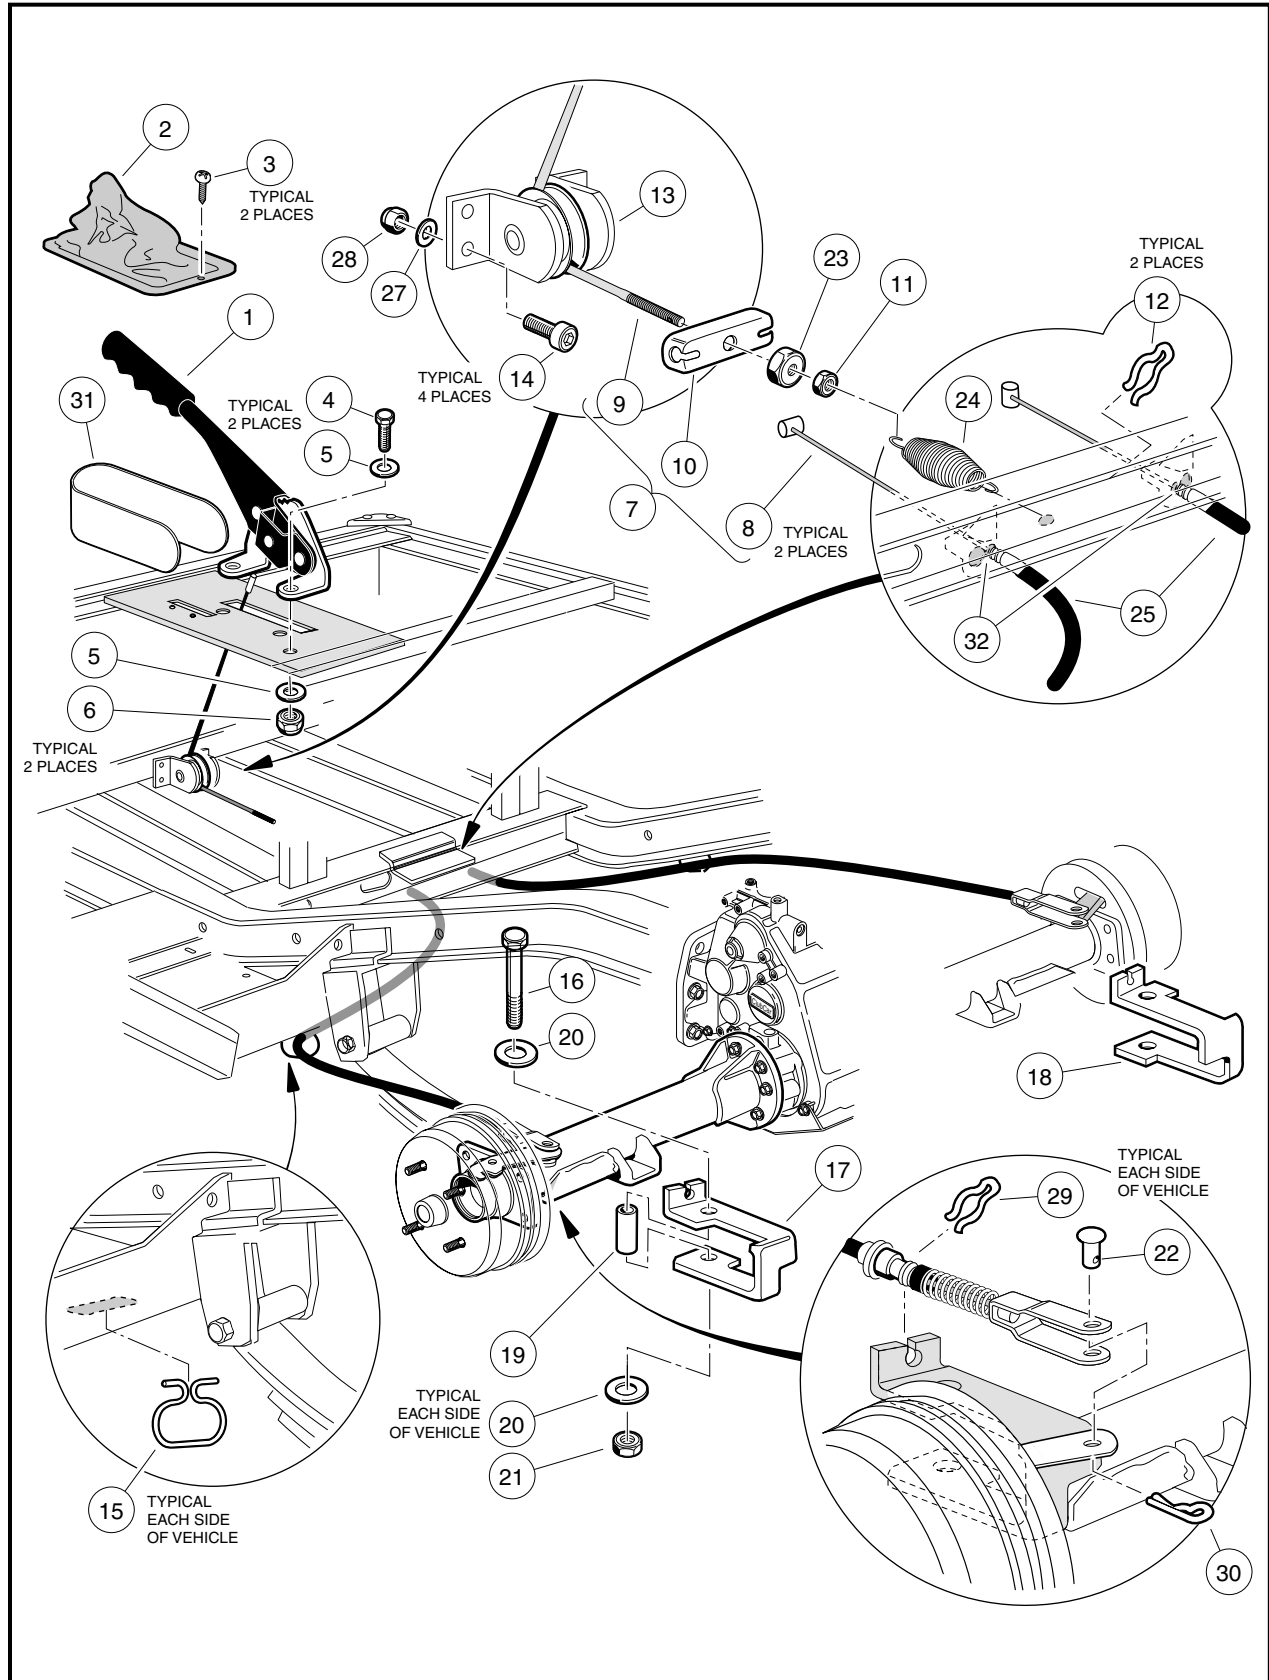

Figure 6b-28 Park Brake System
- **Do not apply more than 65 in-lb (7.3 N·m) of torque to any of the adjuster bolts. Overtightening of the adjuster bolts could result in damage to the brake cluster components or the separation of the bolt (4) from the adjuster (3) (Figure 6b-3, Page 6b-4 or Figure 6b-21, Page 6b-25).**
4. With the park brake released (down), tighten the conical nut (23) until significant resistance is observed in the equalizer cable in order to fully lock the brakes (**Figure 6b-28, Page 6b-40**).
7. Using the double-wrench method, tighten the equalizer jam nut (11) against the conical nut (23) to 55 in-lb (6.3 N·m) (**Figure 6b-28, Page 6b-40**).